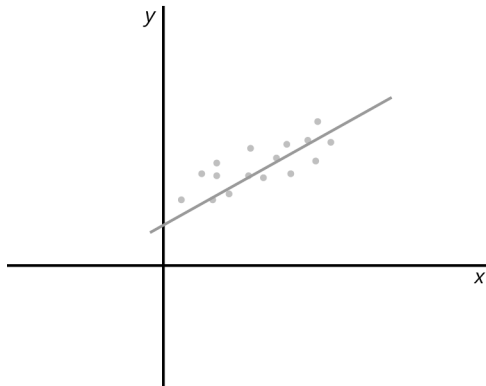

FIGURE 2-2 A graph showing an example of linear regression.
- **Regression analysis** The analysis of a dependent variable against one or more independent variables to determine the nature of the relationship, if any, between the variables and to extrapolate from this a likely future scenario. In this process it would be used to forecast a likely future state of perhaps time or costs based on past performance and the mathematical trend observed. It is often displayed in graph format, as shown in Figure 2-2.